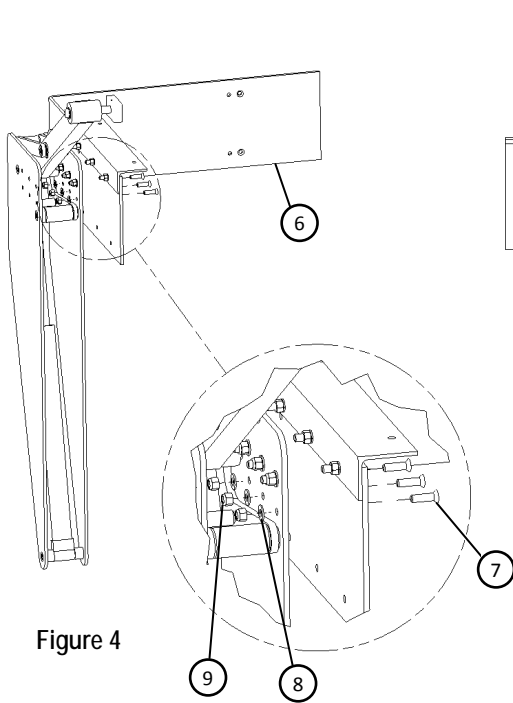

Figure 4
4. See Figures 4 & 5. Place angle side of the Front Mounting Bracket (6) on Actuator Assembly (1). Line up bottom set of holes and secure with 1/2-13 x 1 3/4" hex bolts (7), 1/2 flat washer (8) and 1/2-13 Nylock hex nut (9).